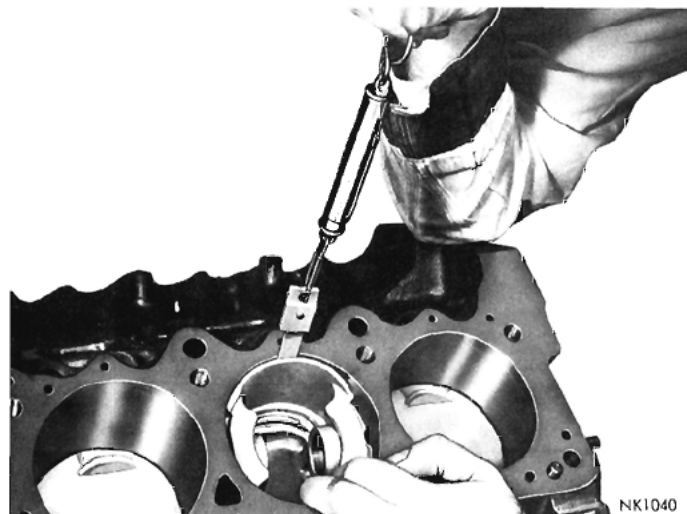

Fig. 104—Fitting Piston in Cylinder Bore
(2) Hold the piston and draw the feeler stock straight out, with the spring scale Tool C-690 as shown in Figure 104. The amount of pull required should be from 5 to 10 pounds.